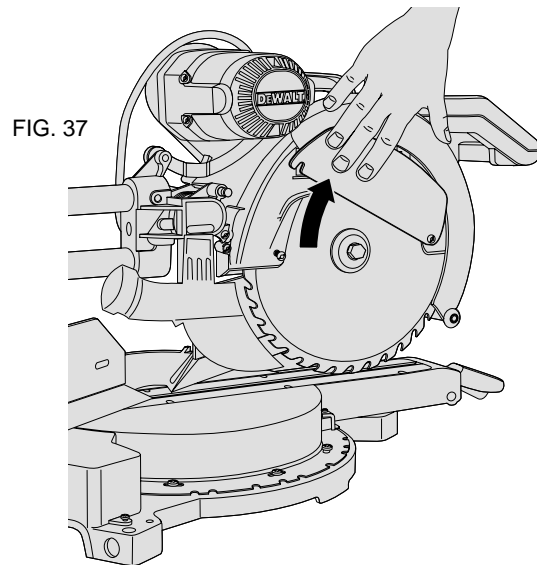

FIG. 37
- 1) Loosen the arbor cover screw, and pivot the arbor cover up, as shown in Figure 37. **NOTE:** This screw is a specific length to provide a caliper for the blade to prevent guard damage. Do not replace this screw with a different screw.